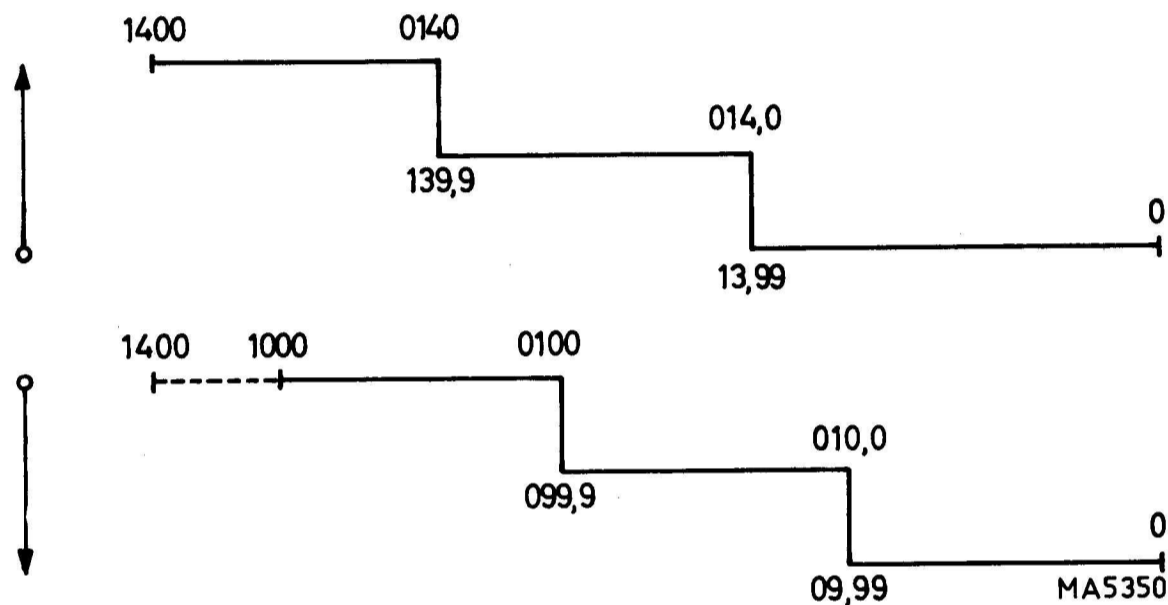

Fig. 50. Checking the range selection
- 6.1.7. Slowly reduce the voltage. At 0100 mV the reading will change from 0099 to e. g. 099.9 (Fig. 50).